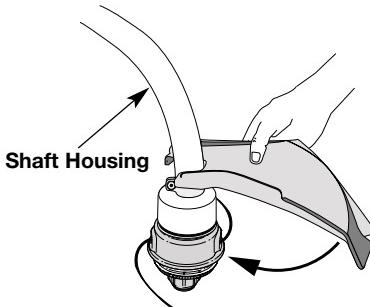

Fig. 7
1. Place the cutting attachment shield onto the shaft housing above the clamp assembly, so that the shield is in front of the cutting attachment (Fig. 7).